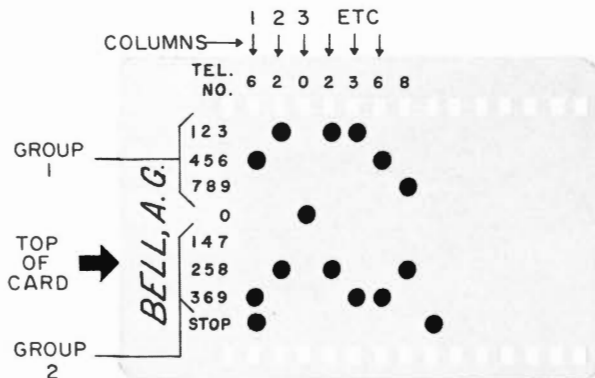

Fig. 5 - 7-Digit Card Coded for Telephone Number 620-2368 (MAIN 0-2368)
- 4.03 Coding instructions for cards (Fig. 5 and 6) are as follows:
1. Write the name and the desired telephone number in the spaces provided as shown in Fig. 5 and 6. Convert the two exchange letters to numbers by referring to your telephone dial. (For example, use 2 for A or B or C.)
column 1 locate the first digit of the telephone number in group 1 and punch out the perforation with a pencil or ball point pen. (In Fig. 5 the number is 6.) In the same column locate the same number in group 2 and punch out the perforation. If not already removed, punch out the STOP in this same column.